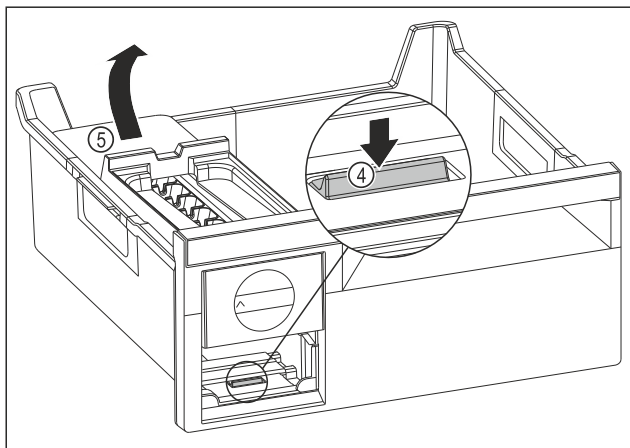

Fig. 158
- Removing the EasyTwist-Ice body: Use your finger to push the tab Fig. 158 (4) down and use your other hand to lift the EasyTwist-Ice body Fig. 158 (5) from behind at the same time.